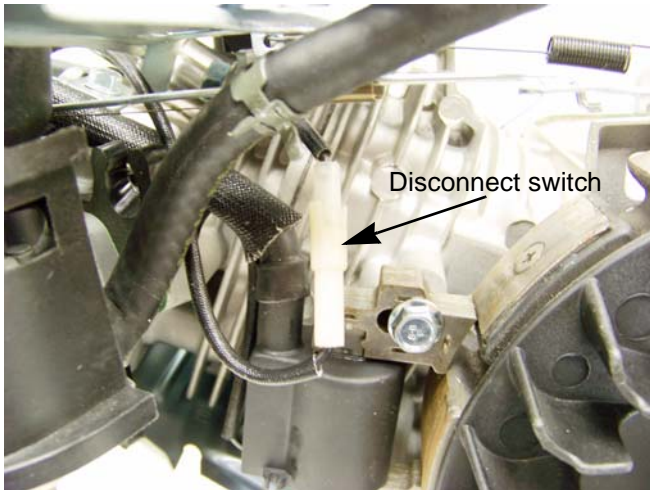

Figure 7.2
4. Disconnect the lead that runs from the module to the stop switch. See Figure 7.2.